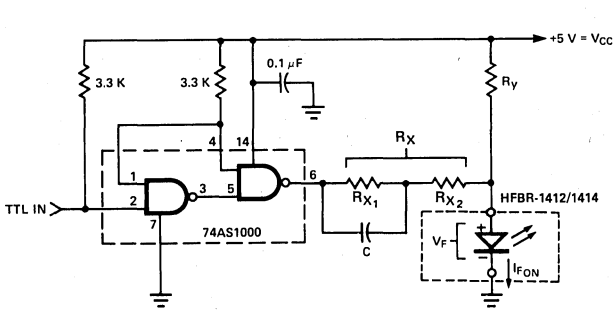

Figure 11. Recommended Drive Circuit
- Pre-bias is recommended if I_F < 30 mA, see recommended drive circuit in Figure 11.
For data rates of 35 MBd or less, the transmitter drive circuit in Figure 2 will be adequate. For greater than 35 MBd operation, shorter rise and fall times are desirable. Rise and fall times can be improved by using a pre-bias current and "speed-up" capacitor. A pre-bias current will significantly reduce the junction capacitance and will not change the extinction ratio appreciably. The recommended TTL compatible drive circuit in Figure 11 using a speed-up capacitor will provide a typical rise and fall times of 4 ns. The following set of equations will give the component values for the circuit for different transmitter drive current: